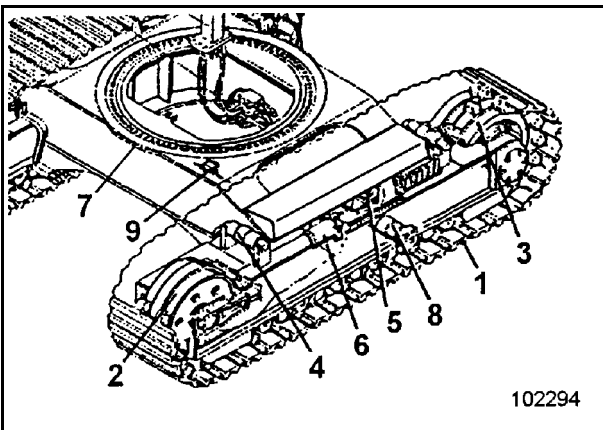
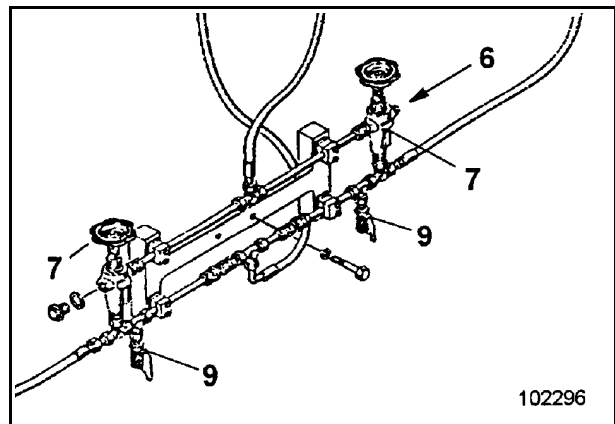

Fig. 3-120:
Fig. 3-121:
The tracks are tensioned with the help of the hydraulic pressure created during travelling. Fig. 3-120: and Fig. 3-121: show parts of the tracks and the tensioner:
- open both pressure limiting valves (7, Fig. 3-121:) to slacken the tracks.
- After the work, screw down the pressure limiting valves (7) to the limit stop.